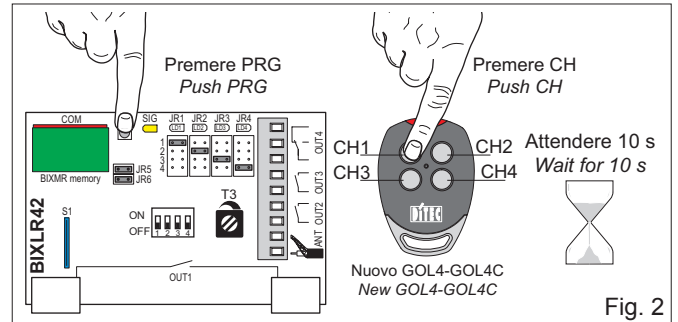

Fig. 2
4. MEMORIZZAZIONE GOL4-GOL4C (fig. 2)
4. MEMORIZATION GOL4-GOL4C (fig. 2)